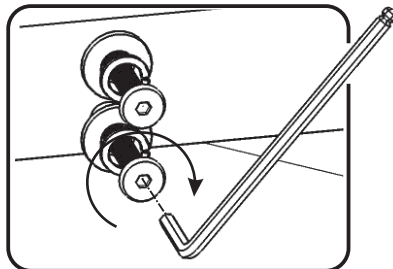

Figure 2
Attach Feet (M) to Bottom (J) with Flat Washers, Spring Washers and Head Cap Bolts (long). (See Figure 2)